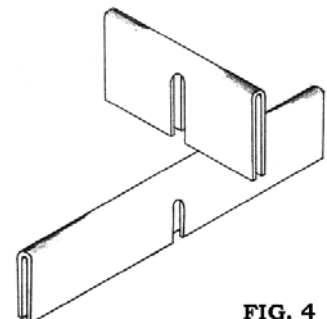

FIG. 4
1. Assemble the Cross Tees to the Main Runners using Cross Tee Clips. Use of Lock clips at these intersections helps assure a positive connection. **FIG. 4**